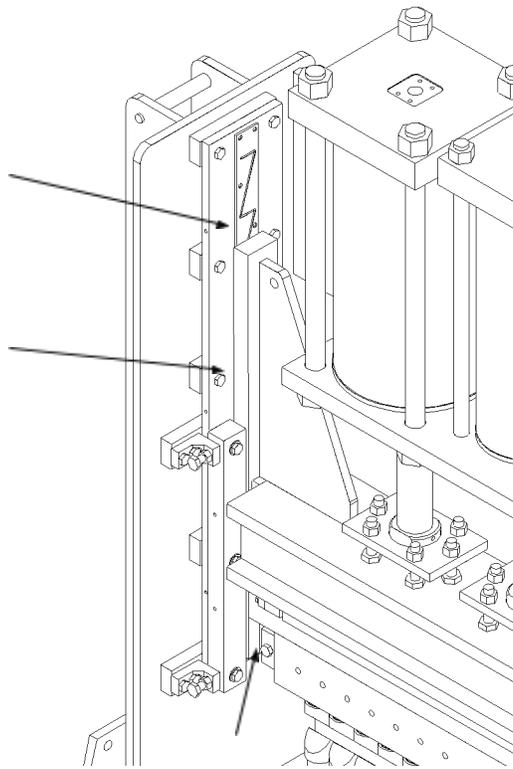

FIGURE 3 – use a feeler gauge to check tightness of the end guides
- 1.5 There shouldn't be any space between the end guides and the top jaw. To test this, use a 0.020" feeler gauge to fit between the top jaw and the guides. It shouldn't be able to fit between the guides and the brass. Try it in several spots when the top jaw is lowered all of the way down. Note figure 3.